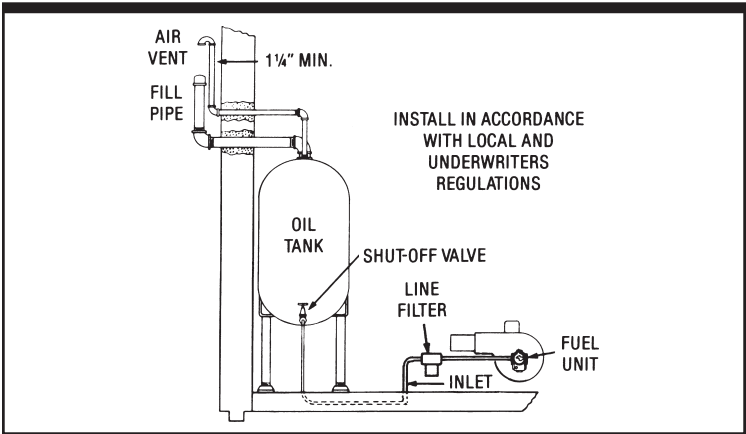

FIGURE 1
Do not install by-pass plug! Connect inlet line to pump inlet. Start burner. Open easy flow bleed valve one turn CCW. Bleed unit until all air bubbles disappear. Tighten easy flow bleed valve. Figures 1 and 2 show typical one-pipe installations. J and H pumps are not recommended for lifts (H) above two feet or 2 inches mercury inlet vacuum with the exception of the J2XXF pump.
For additional information, see Single-Pipe Installation Section, page III-1 of this manual. Figures 1 and 2 are typical one-pipe systems.